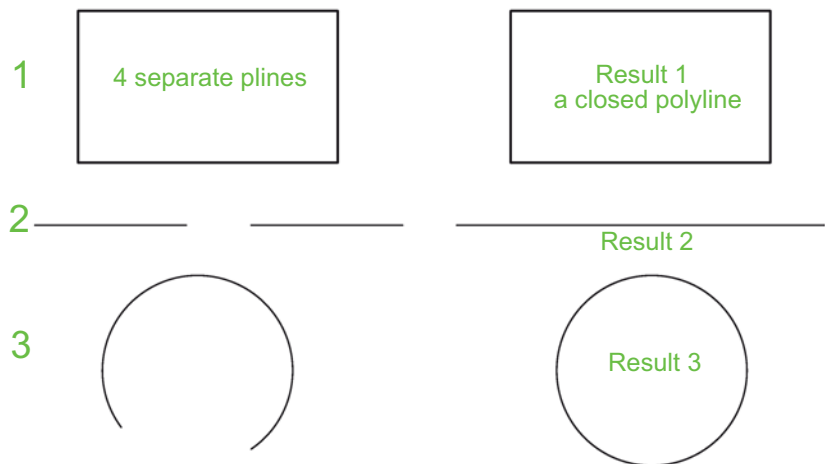

Fig. 6.34 Examples – Join
EXAMPLES – JOIN (FIG. 6.34)
1. Construct a rectangle from four separate plines – drawing 1 of Fig. 6.34 – construct two lines – drawing 2 of Fig. 6.34 – and an arc – drawing 3 of Fig. 6.34.
The results are shown in Fig. 6.34.